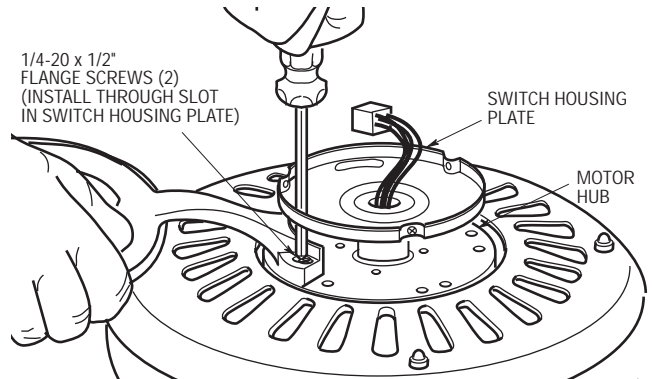

Figure 3
8. Align holes in blade assembly with holes in motor hub and rotate motor hub until one of the flange screw holes is visible through slot in switch housing plate. Attach blade assembly to motor hub using 1/4-20 x 1/2" Phillips oval head flange screw (Figure 3). Rotate motor hub until other flange screw hole is visible through slot and install second screw. Make sure screws are tightened securely. Repeat this procedure for other four blade assemblies.